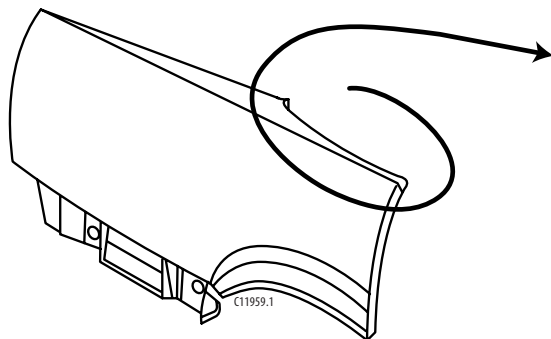

Figure 9-1:
4. Following the upper character line of the quarter panel with $\frac{3}{4}$ -inch masking tape from the door opening to the deck lid opening, cut a tab in the quarter panel outboard of the tape (figure 9-1). Bend the tab down and out slightly; the service quarter panel will be welded to this flange.